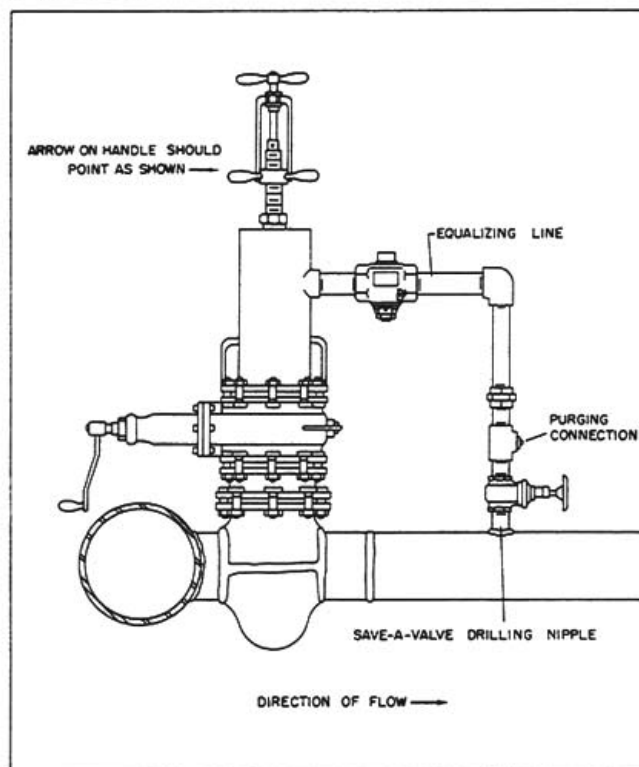

FIGURE 50
5. If using a by-pass stopper, install a Save-A-Valve Drilling Nipple on the new lateral pipe and connect this nipple with the stop on the by-pass connection in the stopping machine to form an equalizing line. **Figure 50.**